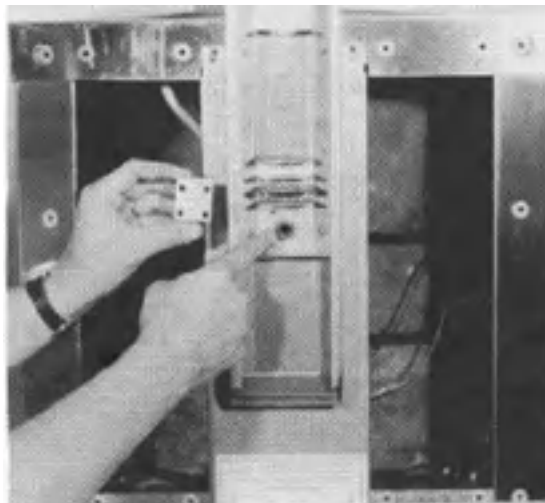

FIG. 20
7. Remove defective vent tube O-ring and discard (See Figure 20).